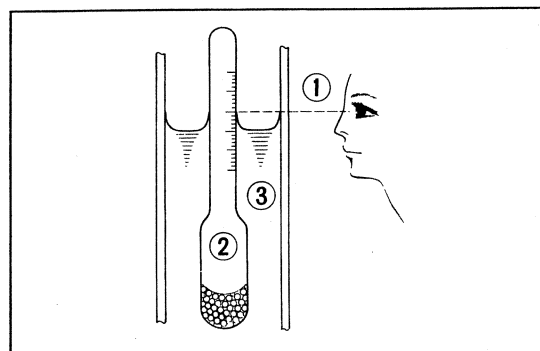

Fig. 160 ① Eye level ② Hydrometer ③ Battery electrolyte
1) Measure the specific gravity of the battery electrolyte with a hydrometer and if it is below 1.200 (corrected to 20°C), the battery should be recharged. The specific gravity is calibrated on the stem of the float and the reading is taken at the fluid level with the float buoyant. (Fig. 160)